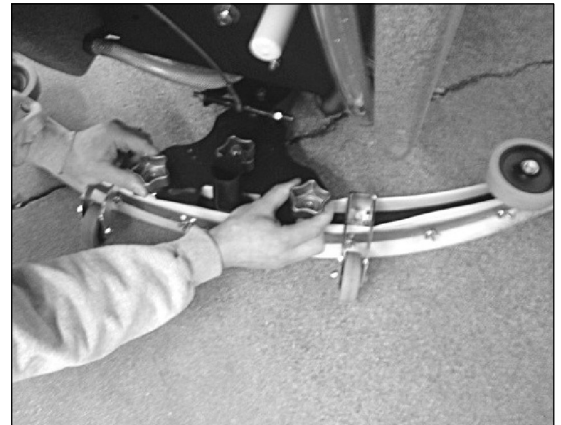

FIGURE 7.
2. LOOSEN THE TWO KNOBS ON THE SQUEEGEE AND SLIDE THEM INTO THE SLOTS IN THE SQUEEGEE MOUNTING PLATE. THE SQUEEGEE TRAIL WHEELS SHOULD FACE OUTWARD. (SEE FIGURE 7.)